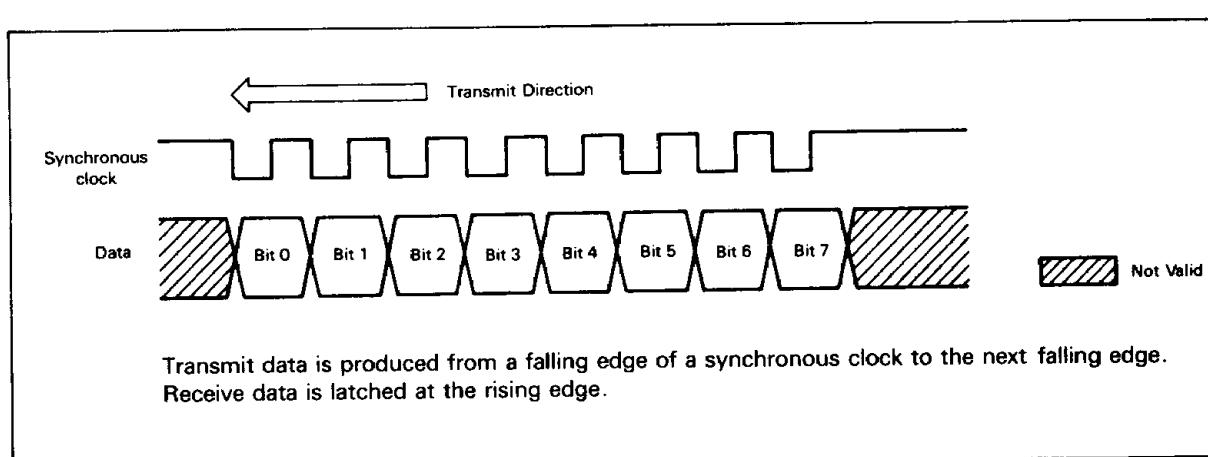

Figure 33. Synchronous Format
**Synchronous Mode :** In the clocked synchronous mode, data is transmitted synchronously with a clock pulse. Since the HD63701Y0 has an independent transmitter and receiver, full duplex operation is available, but only in asynchronous mode. In synchronous mode, P22 is the only clock pin, so simultaneous transmission and reception is impossible. TE and RE should therefore never be set to 1 at the same time. Figure 33 shows the clock and data format in synchronous mode.